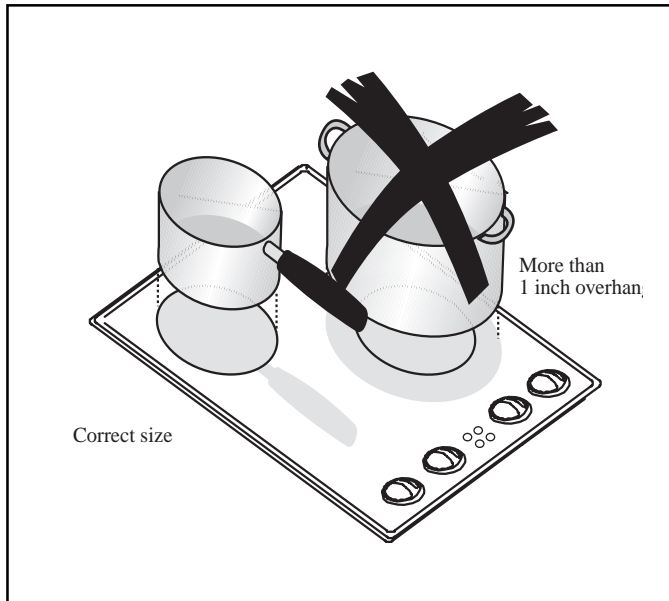

Figure 9
- Use proper pan size. Do not use a pan that has a bottom smaller than element. Do not use utensils that overhang element by more than 1 inch. (Figure 9)